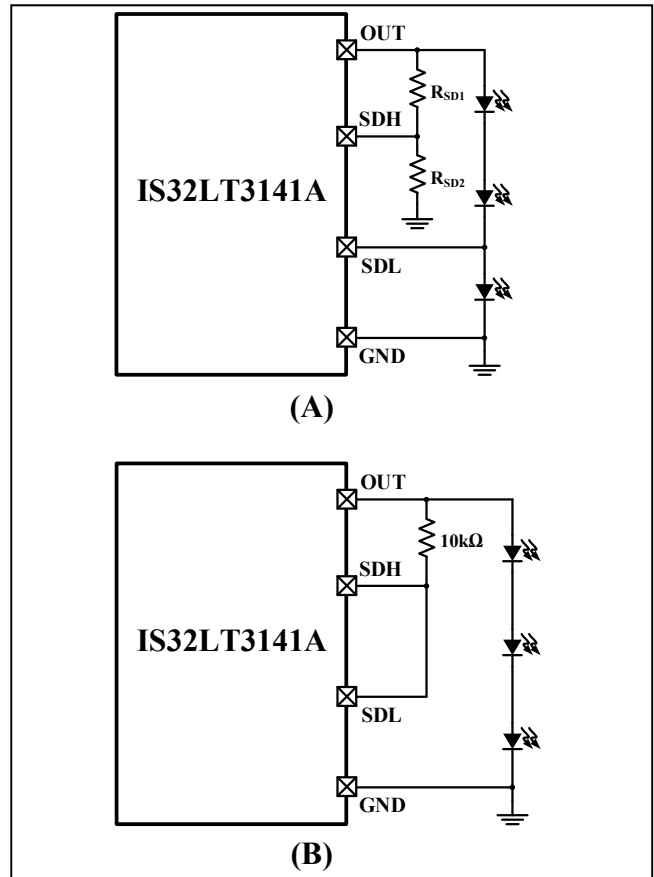

Figure 56 SDH and SDL Connection
In the application, the SDL pin is connected to the anode of the bottom LED and the SDH is connected to OUT pin via a proper resistor divider; Figure 56 (A). The device uses the input voltage of the SDL pin, the forward voltage of the bottom LED, as the reference voltage of the CMP1 to monitor the SDH pin voltage. In case of any upper LED is shorted, the SDH pin voltage V_{SDH} will drop down. If it drops below V_{SDL} but greater than V_{SSH_TH} and persists for longer than the deglitch time t_{FD_SS} , the single LED short protection will be triggered and the FAULTB pin will go low to report the fault condition. The resistor divider ratio can be calculated by:
When the single LED short protection is unused, SDH and SDL pins must be connected together to OUT pin via a resistor (recommended value is 10k Ω). As Figure 56 (B).